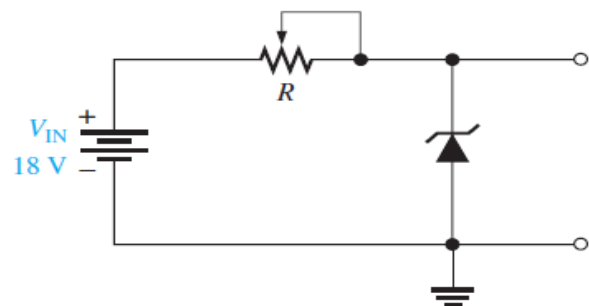

Figure 3
6. To what value must R be adjusted in Figure 3 to make I_z 40 mA? Assume $V_z = 12 \text{ V}$ at 30 mA and $Z_z = 30 \Omega$. And draw the output waveform if 20 V peak sinusoidal voltage is applied to this circuit in place of the dc source.